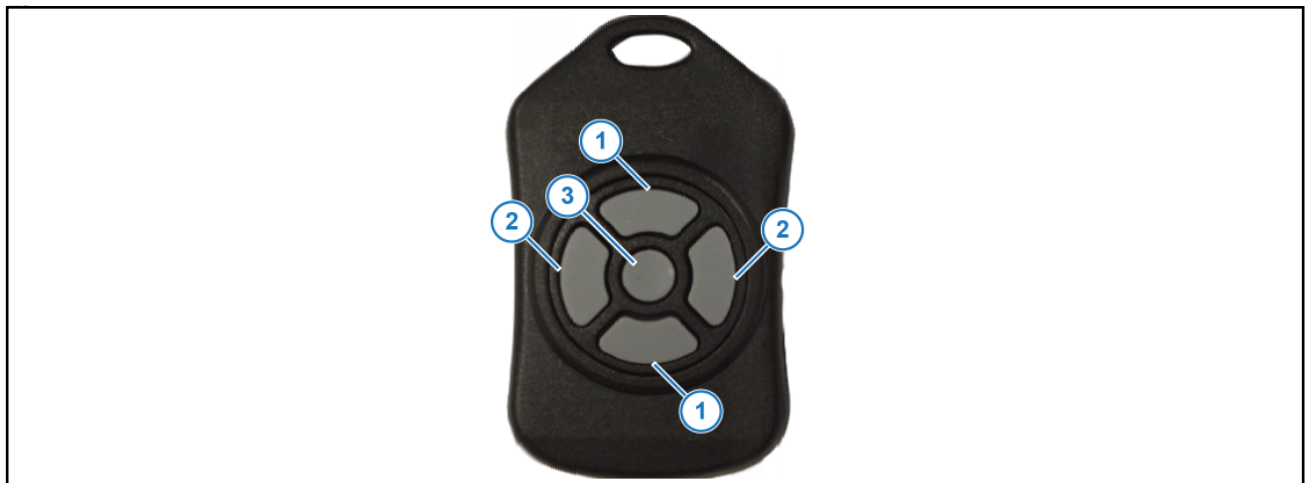

Figure 29: Key Fob
2. Press the top/bottom buttons (Figure 29, Item 1) on the key fob to turn on/off each boom section. Make sure that each boom section is operating (clicking) in the correct order.
3. Press the right/left buttons (Figure 29, Item 2) on the key fob to turn on/off each individual nozzle valve. Make sure that each nozzle valve is operating (clicking) in the correct order.
4. Press the center button (Figure 29, Item 3) on the key fob to turn off the whole boom.
5. On the VT screen, select the box (Figure 29, Item 3) next to Key Fob (Figure 29, Item 4) until OFF shows.